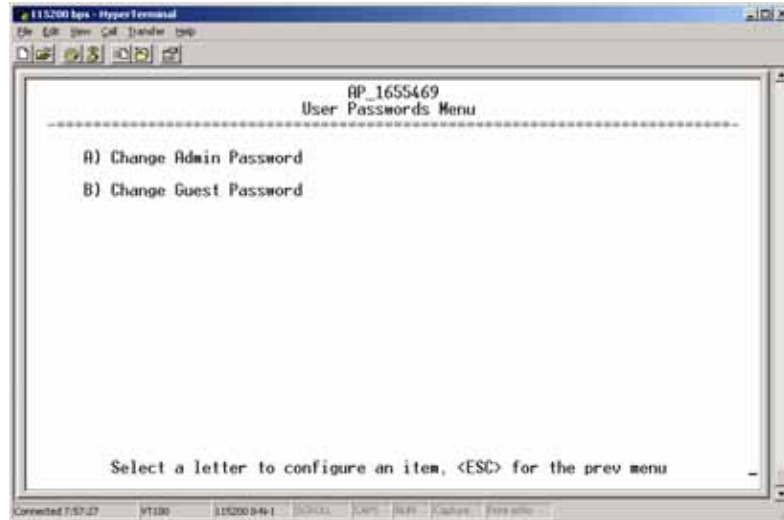

Figure 3-62. User Passwords Menu
- **User Passwords**—Allows changing of Administrative and Guest passwords. When selected, a new screen appears (Figure 3-62 on Page 94).